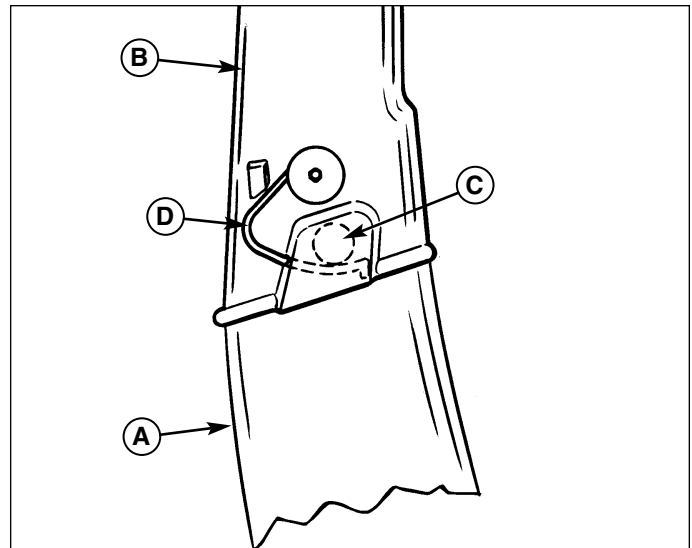

Figure 11. Install Discharge Tube to Boot
3. Attach the discharge tube (B, Figure 11) to boot (A) and secure the tube by moving wire form (D) down over metal puck (C).